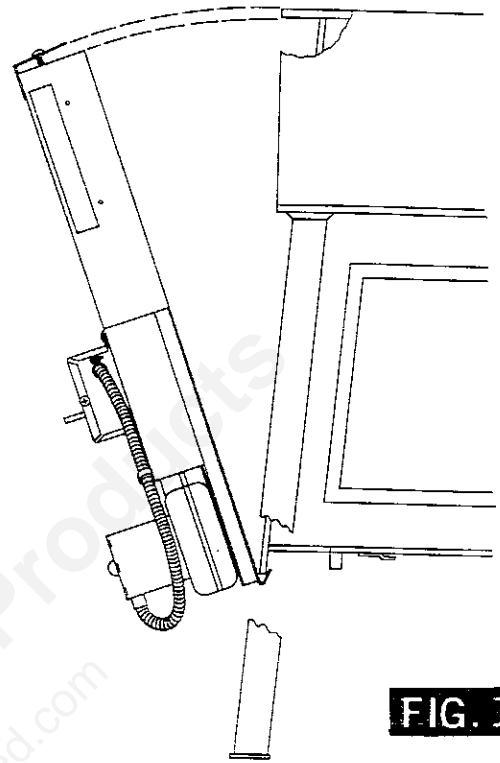

FIG. 1
**STEP 1** - There are two bent tabs on the bottom edge of the Blower Assembly. These tabs should be hooked under the bottom edge of the heater as shown in Figure 1.